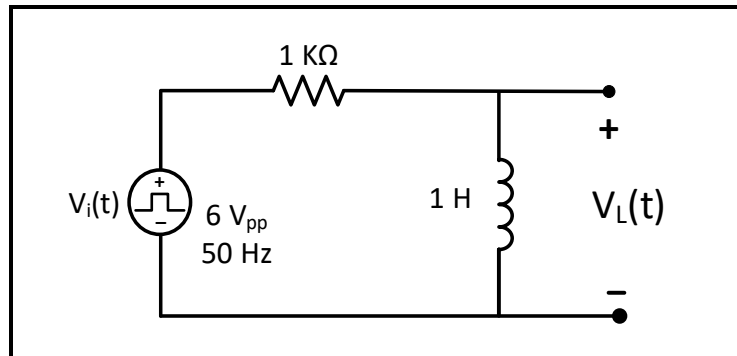

Figure 5.7
For the circuit of Figure 5.7:
1. Connect the circuit shown in Figure 5.7, with the function generator set to produce a square wave of: $V_{in} = 6\text{ V}_{pp}$, $f = 50\text{ Hz}$, and DC offset 3 V.